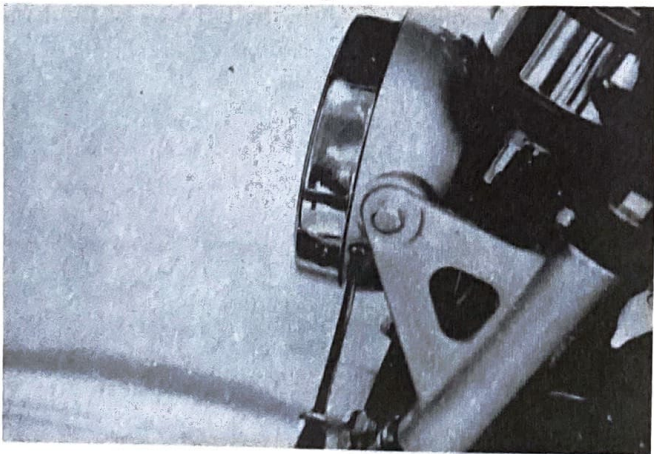

Fig. 30
21. Firmly fit the lens ass'y in place. Make sure no wires are pinched. Then, secure the lens ass'y with pan-head anchor screw. (Fig. 30)